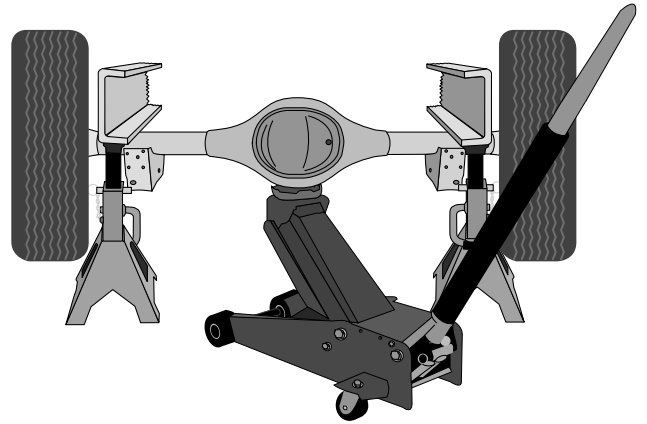

Fig. 1
1. Lift the vehicle and support the frame with safety stands. Drop the axle down low enough to later set the air spring assemblies into position between frame and axle (Fig. 1).